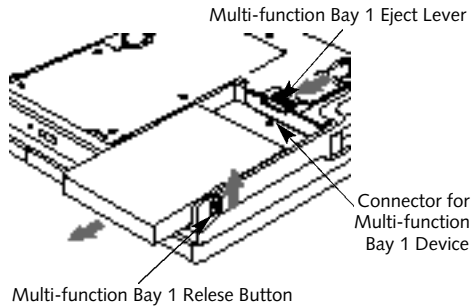

Figure 4-2 Removing and Installing a Device in Multi-function Bay 1
6. While holding the release button in the release position use the Multi-function Bay 1 Eject lever on the bottom of your notebook (Figure 4-2) to push the device toward the front of your notebook until the connector is disconnected.
(Figure 4-2.)